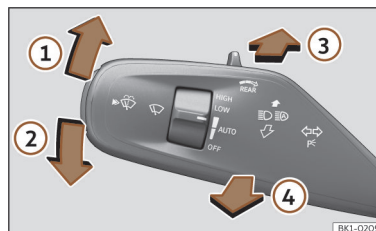

Fig. 92 Turn signal and main beam lever.
- From the neutral position, press the turn signal and main beam headlights lever forwards >>> **Fig. 92 ③.**
- **EITHER:** if main beam assist is on, pull the turn signal light and main beam headlights lever back >>> **Fig. 92 ④.**